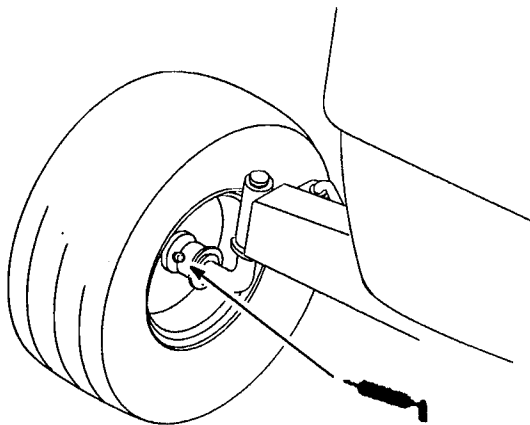

Figure 12
1. Lubricate the front wheels until grease begins to ooze out the bearings (Fig. 12).